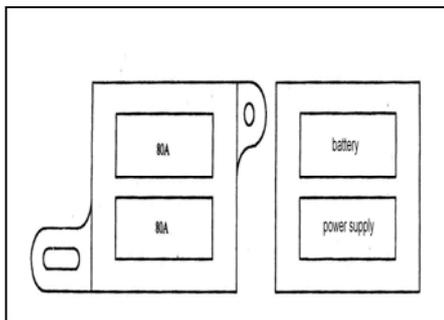
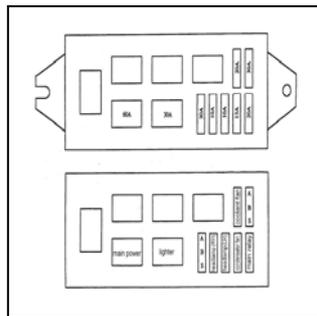
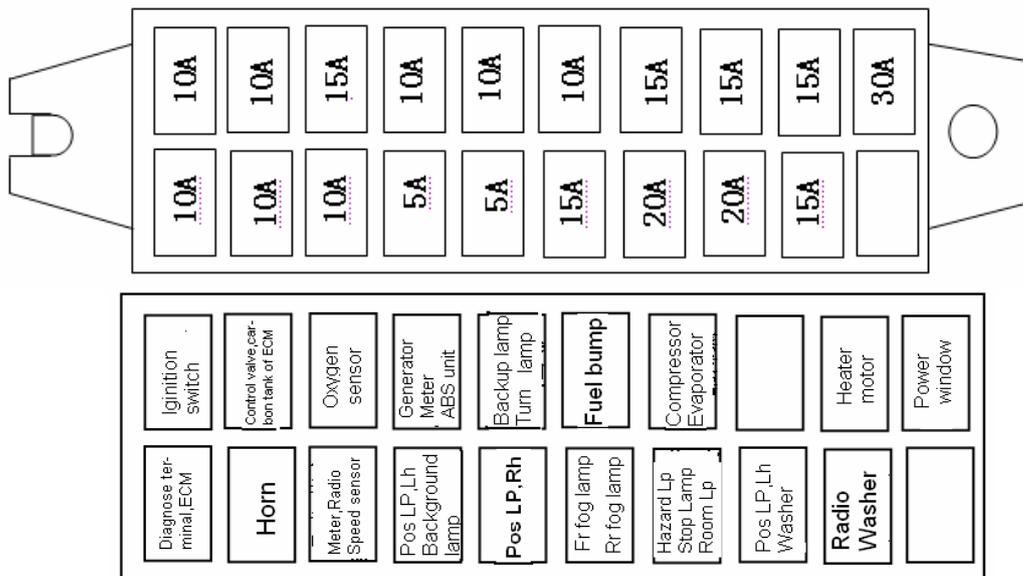

Fig17-43
Fig 17-44
Fig 17-45
- 1) The vehicle uses three fuse boxes, which are class I, class II and class III. Fuses position in the fuse boxes are shown on the box lids., as shown in Fig 17-43, Fig. 17-44 and Fig. 17-45